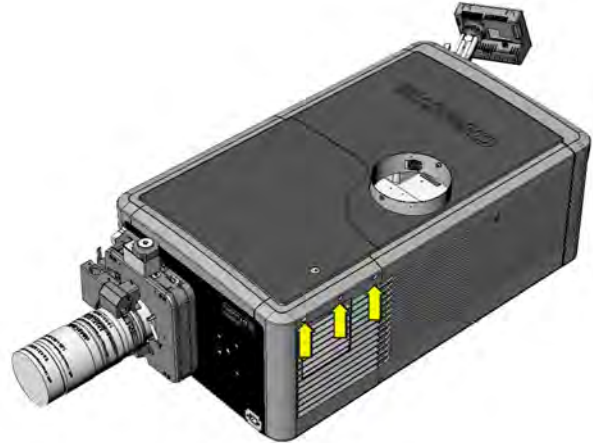

Figure 5-6 Remove Left Access Cover
1. Using a #2 Phillips™, loosen the three captive screws at the top of the cover. **(Figure 5-6)**